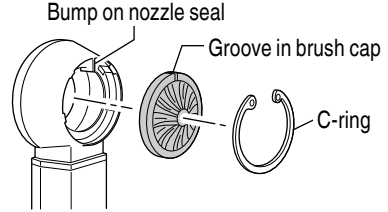

Fig. 20
- ① Remove the nozzle seal as shown in the figure.
- ② Attach a new nozzle seal. Align the nozzle seal so that its notch fits onto the outer shape of the nozzle.
- (b) Replacing the brush cap (Fig. 20)